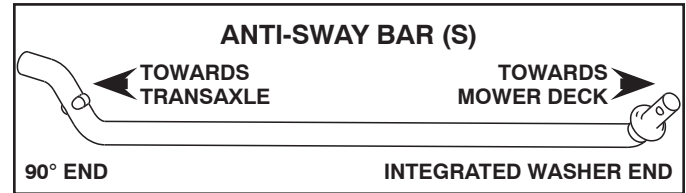

Fig. 24
## 5. INSTALL ANTI-SWAY BAR (S) (IF EQUIPPED) (See Fig. 24 - 26)